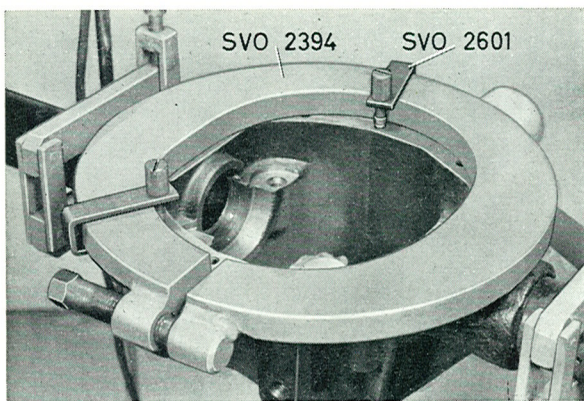

Fig. 4-95. Expanding the drive pinion carrier
6. Fit tool SVO 2394 in the holes in the drive pinion carrier as shown in Fig. 4-95. Fit the tool with retainers SVO 2601. Tension the tool until it fits exactly in the holes in the carrier. Then tension the bolt a further 3—3½ turns. Lift out the differential carrier with crown wheel. Tool SVO 2337 can be used for this purpose.